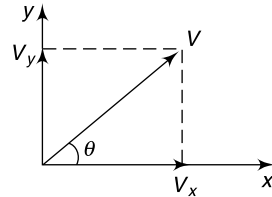

Fig. 5.37 Horizontal and vertical components of phasor V
For solving complicated ac circuit problems complex algebra is used. In this method a phasor is resolved into two components at right angles to each other. If a phasor V is resolved into two components V_x (horizontal component) and V_y (vertical component) [Fig. 5.37] then $V^2 = (V_x^2 + V_y^2)$ and (V) can be represented in cartesian form as, $V = V_x + j V_y = V(\cos \theta + j \sin \theta)$.